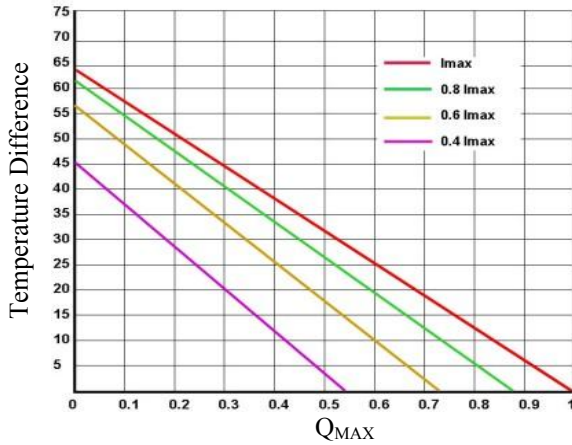
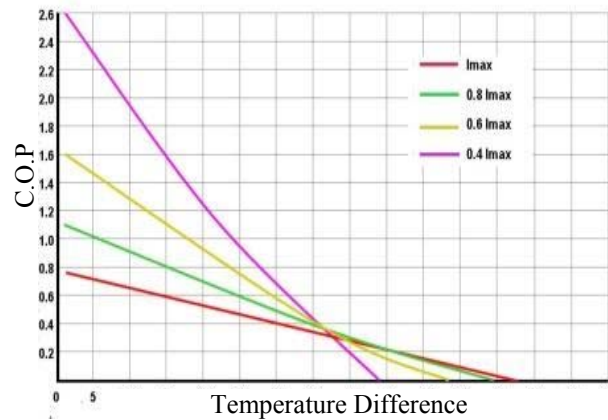

Figure 2. Temperature Difference vs. Q_{MAX}
Figure 5. C.O.P vs. Temperature Difference
- Use the charts provided in Figure 2 to Figure 5 and Figure 6 to Figure 9, to decide which TEC to use, what is the heat needed to be dumped through the heat sink, what is the heat sink temperature, etc.